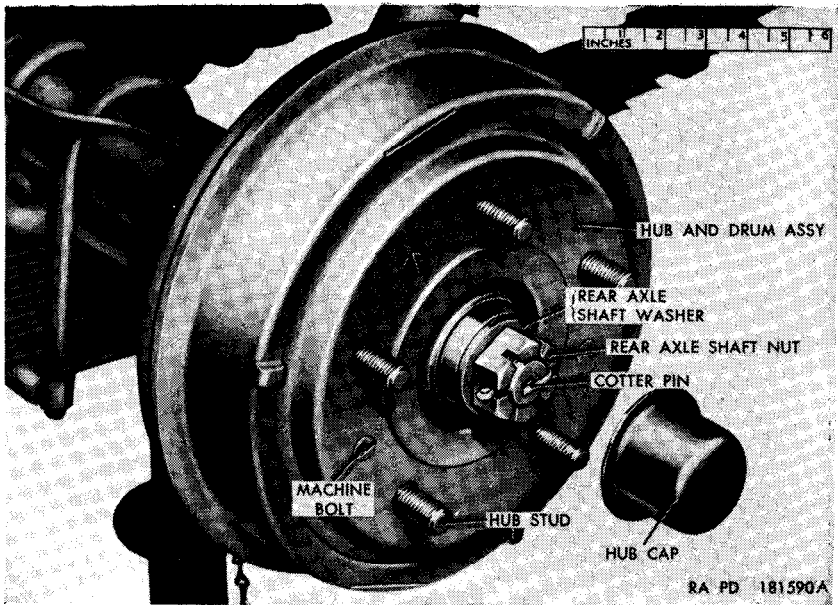
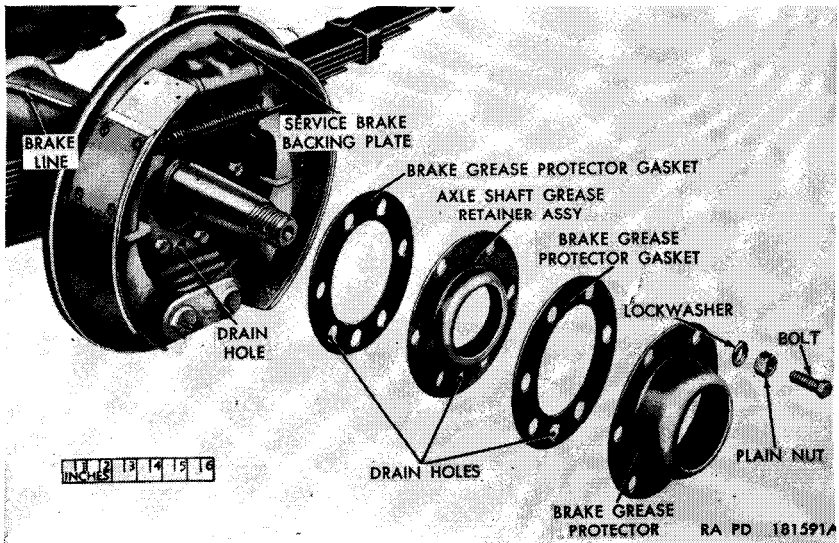

Figure 94. Rear axle assembly—hub cap removed.
Figure 95. Rear axle assembly—partially exploded view.
- (1) The removal procedure is the same for the left or right rear axle shafts.
- (2) Place a jack under the rear axle and raise the vehicle until the wheels are clear of the ground. Place safety stands under both ends of the axle outside the spring U-bolts or block axle with solid blocking.
- (3) Remove wheel (par. 256).
- (4) Pry off hub cap, and remove cotter pin, axle shaft nut, and axle shaft washer (fig. 94).
- (5) Install a wheel puller on three hub studs of the hub and drum assembly (fig. 94) and remove hub and drum assembly and the key.
- (6) Remove the six plain nuts, lockwashers (fig. 95), and bolts securing the brake grease protector, brake grease
- (7) Unscrew the nut securing the brake line (fig. 95) to service brake backing plate and pull line free. Pull the backing plate with attached brake parts off the axle.
- (5) Position the service brake backing plate and attached brake parts on the axle housing flange and align the drain hole with the drain hole (fig. 95) in the flange.
- (6) Position one brake grease protector gasket, axle shaft grease retainer assembly, second brake grease protector gasket, and the brake grease protector (fig. 95) on the two  $\frac{3}{8}$  x  $1\frac{1}{4}$  bolts protruding through the backing plate, aligning the drain holes in the gaskets and protector and the drain passage in the retainer with the drain hole in the backing plate.
- (7) Install the four remaining  $\frac{3}{8}$  x  $1\frac{1}{4}$  bolts through the axle housing flange, and install six  $\frac{3}{8}$ -inch lockwashers and  $\frac{3}{8}$ -inch plain nuts (fig. 95).
- (8) Position the hub and drum assembly (fig. 94) on the axle shaft and align the keyway in the hub with the keyway in the axle shaft. Insert the key into the keyways and tap key and hub and drum assembly into position on the axle shaft.
- (9) Install the axle shaft washer and axle shaft nut (fig. 94) on the axle shaft. Tighten the nut and secure in position with a  $\frac{1}{8}$  x  $1\frac{1}{2}$  cotter pin. Position the hub cap (fig. 94) over the axle shaft and tap cap into position on the hub.
- (10) Position the brake line (fig. 95) in its opening in the service brake backing plate and tighten the nut securing the line to the plate.
- (11) Install the wheel (par. 256).
- (12) Remove the safety stands or blocking and lower the wheels to the ground.
- (13) Bleed the brake system (par. 246).
*a. Adjustment.* Place a jack under the axle and raise vehicle until wheels are clear of ground. Test axle shaft end play by grasping wheel and moving in and out. If the bearings are correctly adjusted, end play will be just perceptible. If end play is not correct proceed as shown in (1) through (13) below.
- (1) Unscrew the five nuts and remove the wheel.
- (2) Pry off the hub cap (fig. 94).
- (3) Remove the cotter pin from the axle shaft nut, unscrew the nut, and remove the axle shaft washer (fig. 94).
- (4) Install a puller on three of the hub studs and pull the hub and drum assembly from the axle. Remove the key.
- (5) Unscrew the nut on the end of the brake line from the wheel cylinder. Remove six nuts and lockwashers from the bolts and remove brake grease protector, brake grease protector gasket, axle shaft grease retainer assembly, brake grease protector gasket, and service brake backing plate (fig. 95).
- (8) Install the service brake backing plate, brake grease protector gasket, axle shaft grease retainer assembly, brake grease protector gasket, and brake grease protector (fig. 95) in the order named and with drain holes at the bottom and install the six lockwashers and nuts on the bolts.
- (9) Install the key in the axle shaft, and put the hub and drum assembly onto the shaft. Install the axle shaft washer, screw on the axle shaft nut, and install the cotter pin (fig. 94).
- (10) Push the hub cap into place.
- (11) Position the wheel on the hub studs and secure with five nuts.
- (12) Position the brake line in the wheel cylinder and tighten the nut.
spring U-bolts or block axle with solid blocking. Remove the wheel (par. 256). Pry off the hub cap and remove the cotter pin, axle shaft nut, and axle shaft washer (fig. 94). Install a wheel puller on three hub studs and remove the hub and drum assembly. Remove the key. Remove the three bolts (fig. 94) securing the brake drum to the hub and pull the drum off the hub. If it is necessary to replace any hub studs (fig. 94), drive them out of the hub.
Position the brake drum on the hub, aligning the mounting holes in the drum with those in the hub. Secure the drum to the hub with three  $\frac{1}{4}$  x  $\frac{5}{8}$  flat-head bolts (fig. 94). Position the hub and drum assembly on the axle shaft, aligning the keyway in the hub with the keyway in the axle shaft. Insert the key into the keyways and tap the hub and drum assembly and key into position. Install the axle shaft washer and axle shaft nut. Tighten nut and secure in position with a  $\frac{1}{8}$  x  $1\frac{1}{2}$  cotter pin (fig. 94). Position hub cap (fig. 94) over axle shaft and tap onto hub. Install the wheel (par. 256). Remove safety stands or blocking and lower vehicle to ground.
*a. Removal.* Remove wheel (par. 256). Pry off the hub cap and remove the cotter pin, axle shaft nut, and axle shaft washer (fig. 94). Remove the three bolts (fig. 94) securing the brake drum to the hub and pull the drum off the hub.